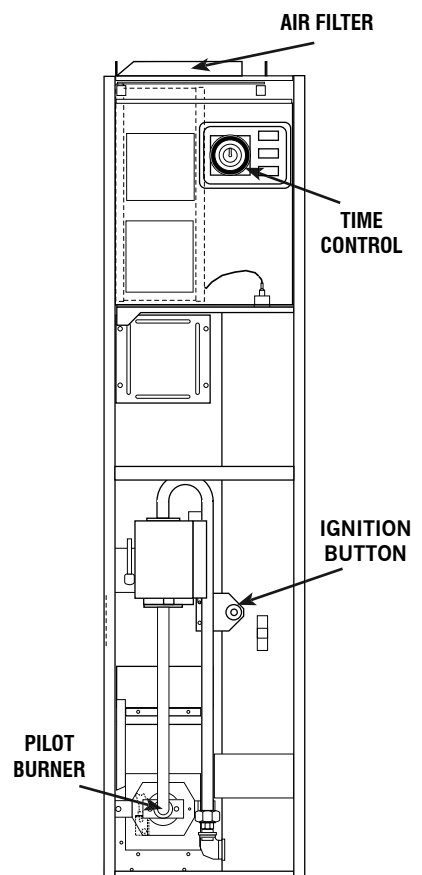

FIGURE 2.
- 4.1 The integral time control (Figure 2) enables continuous or timed operation of your air heater and water heater (if fitted), either individually or together.